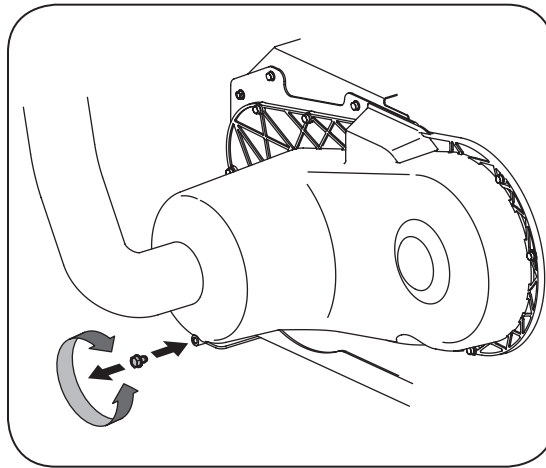

Figure 17
1. Remove CVT cover drain plug. See Figure 17.